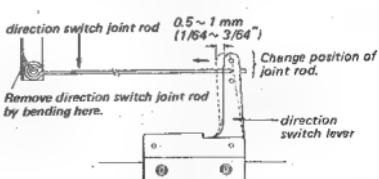

Fig. 3-17. Direction switch joint rod stroke adjustment
1. Place the unit in the STOP mode. Push the tip of the direction switch lever slowly in the direction shown by the arrow in Fig. 3-17 until far as the slide switches on the playback and the bias osc. circuit boards are changed. (Do not move the position of switch).